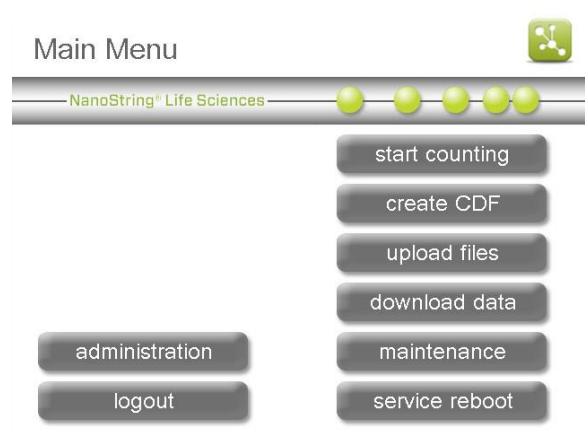

Figure 98: The Main Menu.
1. From the Main Menu (**Figure 98**), press **download data**.